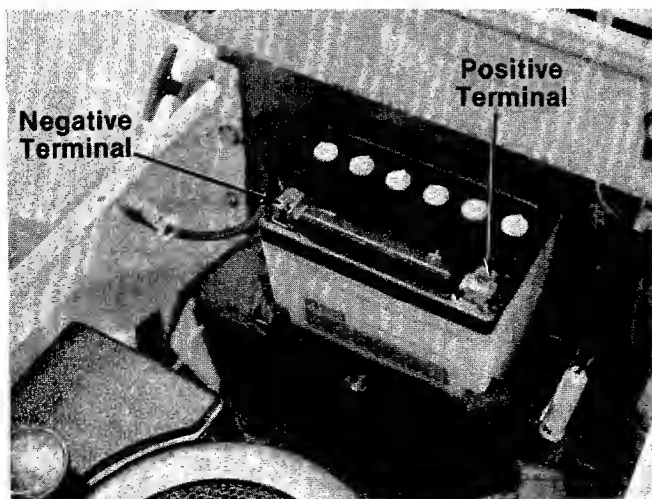

FIGURE 10.
11. Place the battery in the rider so that the positive terminal is towards the left side of the unit. See figure 10.